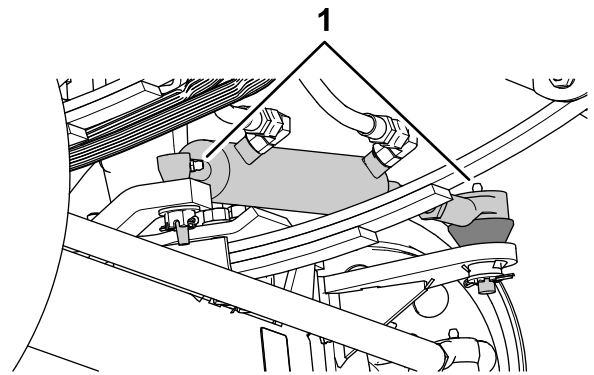
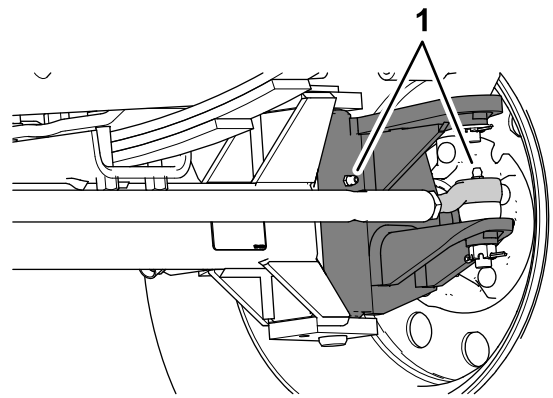

Figure 72
Figure 73
1. Wipe the grease fittings clean (Figure 72 and Figure 73).
2. Pump grease into the grease fittings (Figure 72 and Figure 73).
Note: The grease fittings positions are illustrated in Figure 72.